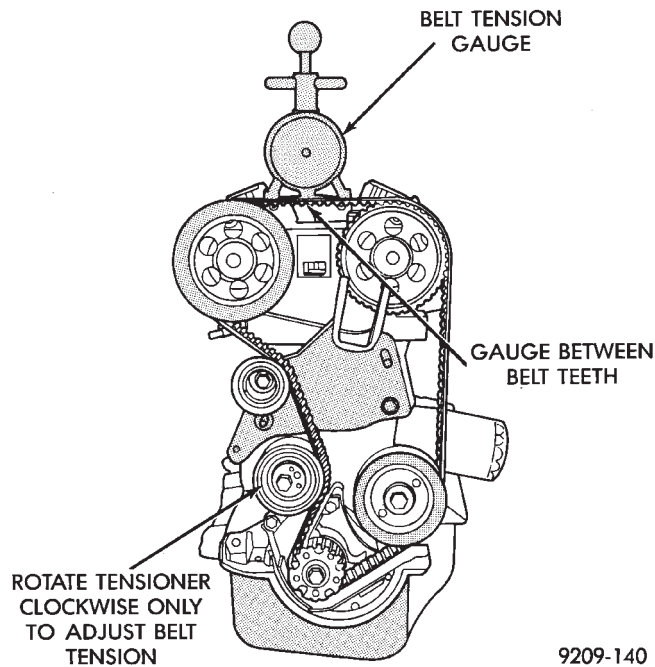

Fig. 12 Belt Tension Gauge Location
- (10) Adjust tension to 445 N (110 lbs.) **New belt** or 311 N (70 lbs.) **Used belt**. Install belt tension gauge on timing belt (Fig. 12) adjust tensioner until specified tension is achieved.